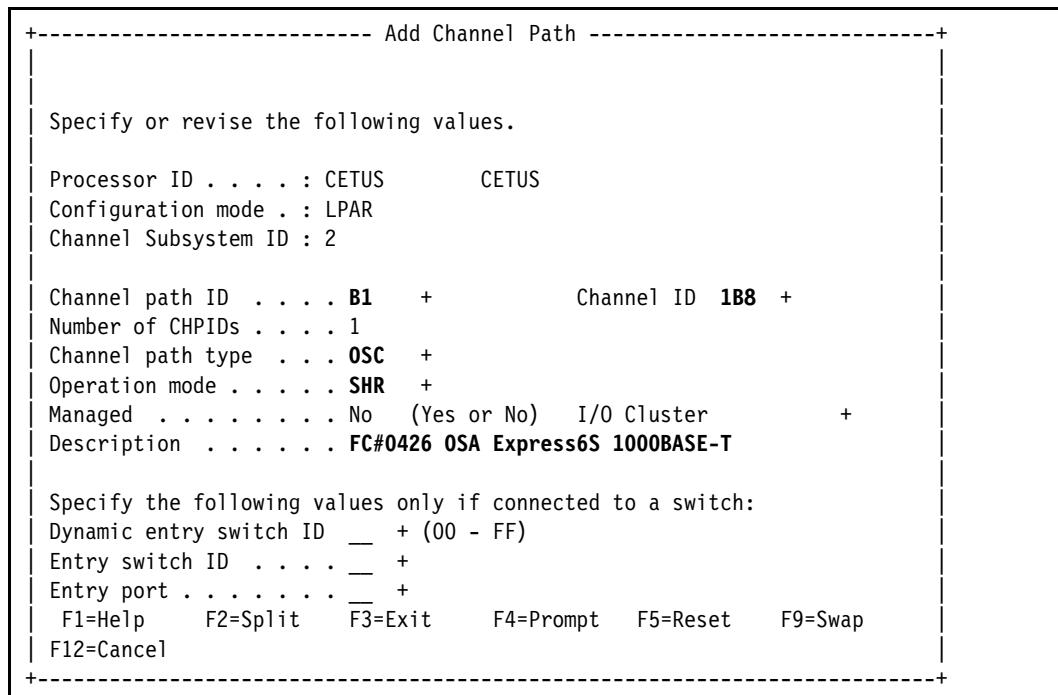

Figure 13-1 Processors: Add Channel Path, OSC
4. In the command line, enter **add** (Figure 13-1), to add a CHPID.